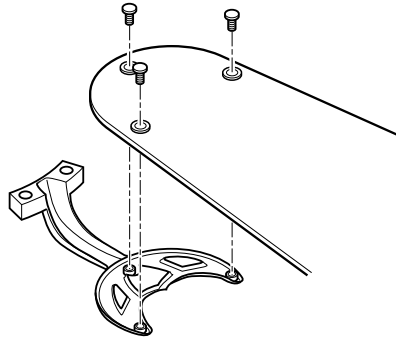

Figure 9b - Attaching Fan Blade to Blade Iron
2. Attach each blade to blade iron using three blade assembly screws as shown in Figure 9b. Some fans